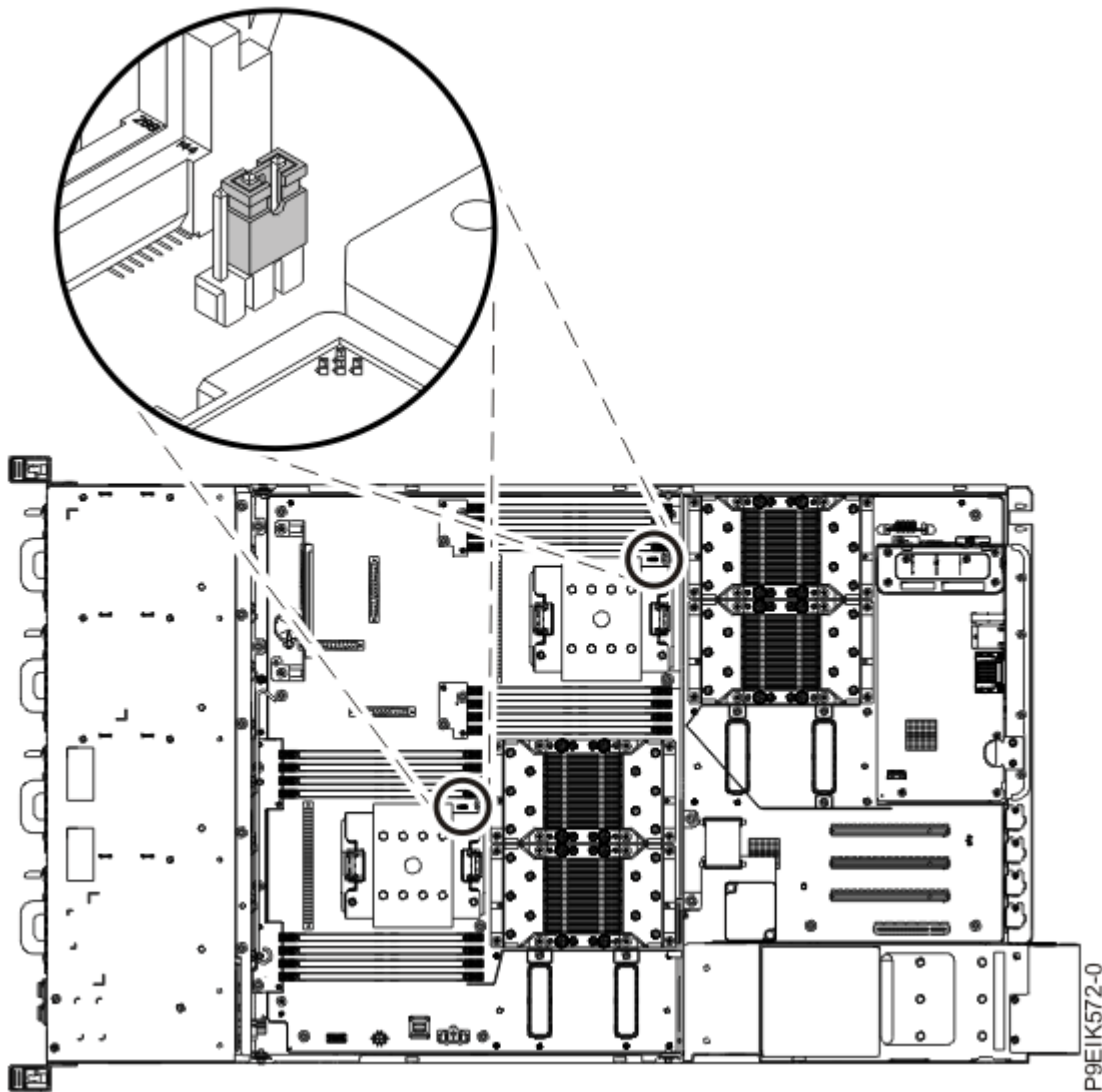

Figure 39. System processor jumper positions
12. Remove the system processor jumpers from the system backplane as shown in Figure 39 on page 53.